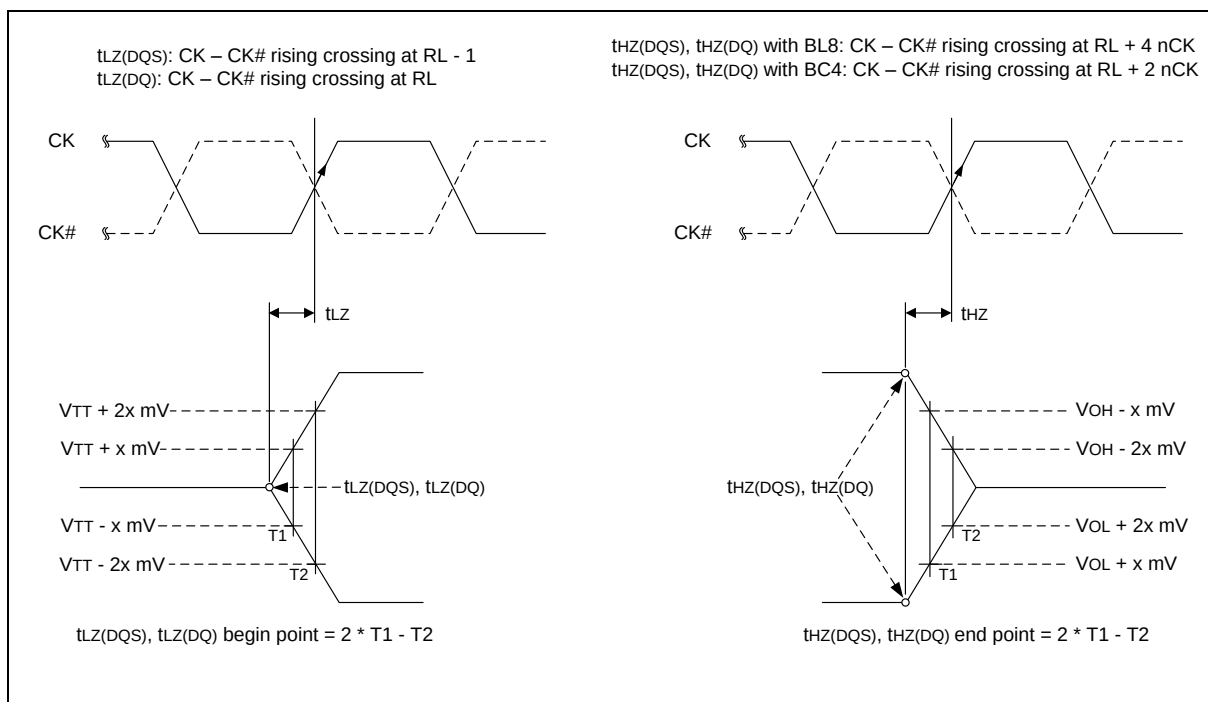

Figure 26 – tLZ and tHZ method for calculating transitions and endpoints
$tLZ(DQS)$, $tHZ(DQS)$ for preamble/postamble (see section 9.13.2.3 and Figure 26).
9.13.2.3 tLZ(DQS), tLZ(DQ), tHZ(DQS), tHZ(DQ) Calculation
tHZ and tLZ transitions occur in the same time window as valid data transitions. These parameters are referenced to a specific voltage level that specifies when the device output is no longer driving tHZ(DQS) and tHZ(DQ), or begins driving tLZ(DQS), tLZ(DQ). Figure 26 shows a method to calculate the point when the device is no longer driving tHZ(DQS) and tHZ(DQ), or begins driving tLZ(DQS), tLZ(DQ), by measuring the signal at two different voltages. The actual voltage measurement points are not critical as long as the calculation is consistent. The parameters tLZ(DQS), tLZ(DQ), tHZ(DQS), and tHZ(DQ) are defined as singled ended.